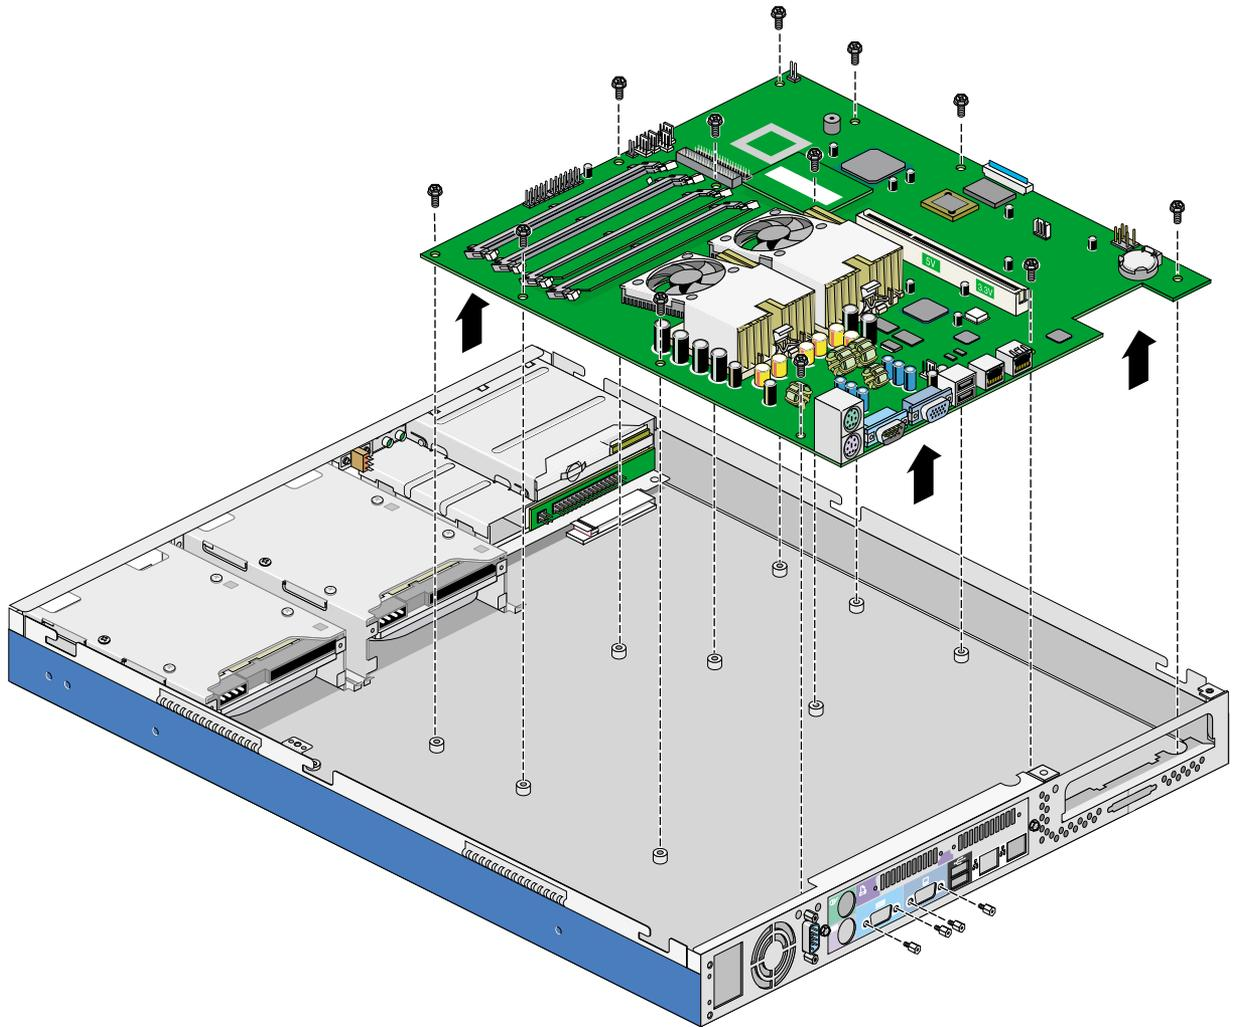

Figure 2-55 Removing the System Board
5. Remove 12 screws from the system board, 2 jackscrews from serial port 1, and 2 jackscrews from the VGA port, as shown in Figure 2-55.